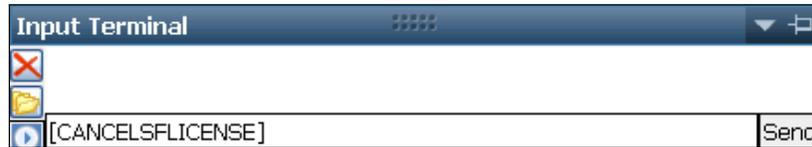

Figure 115: *Input Terminal – Cancel StarFire License*
1. Input the [CANCELSFLICENSE] command on the *Input Terminal* window to cancel the current StarFire license (see Figure 115).